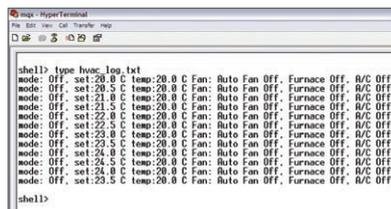

Figure 5: HVAC log file contents
13. Use the **type** command to display the contents of the log file located on the memory stick (**type hvac\_log.txt**). It will look like Figure 5.